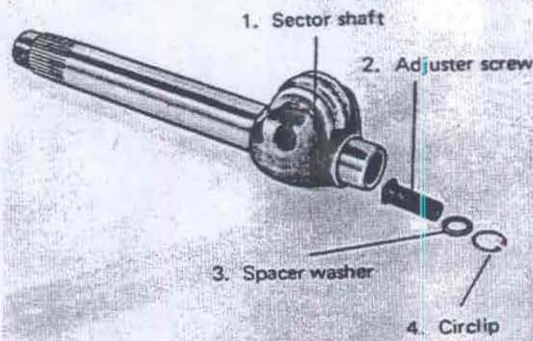

Fig. 64-16. Sector shaft
3. Check the axial clearance on the adjuster screw. It may not exceed 0.05 mm (0.002"). If this is the case, adjust the axial clearance with the spacer washer (3) according to Fig. 64-16. Spacer washers are available in thicknesses 2.10–2.50 mm (0.083–0.098") in steps of 0.05 mm (0.002"). The adjuster screw is released by removing the circlip (4, Fig. 64-16). The clearance should be as small as possible. However, it is important that the adjuster screw can be turned easily after adjustment.